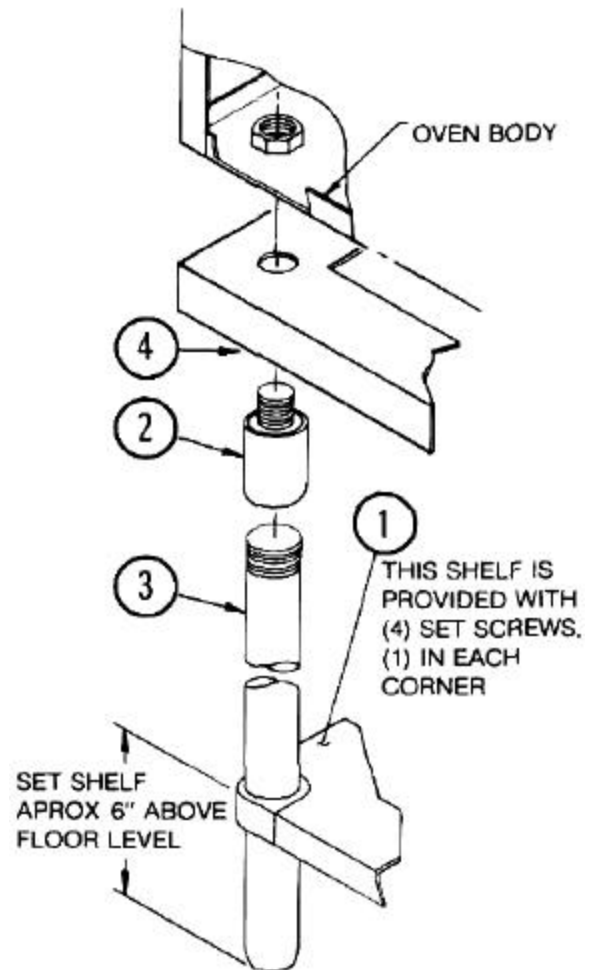

Figure 2-2
1. Insert legs (Fig. 2-2 No. 3) through holes in shelf (Fig. 2-2 No. 1). Do not tighten set screws in corners of shelf.
2. Screw leg tops (Fig. 2-2 No. 2) onto legs (Fig. 2-2 No. 3).
3. Insert leg tops (Fig. 2-2 No. 2) through holes in angle iron frame (Fig. 2-2 No. 4) into weldnuts in bottom of oven.
4. Screw leg tops (Fig. 2-2 No. 2) into weldnuts by turning leg and top assemblies.
5. Raise shelf (Fig. 2-2 No. 1) to desired height and tighten set screws in shelf corners.